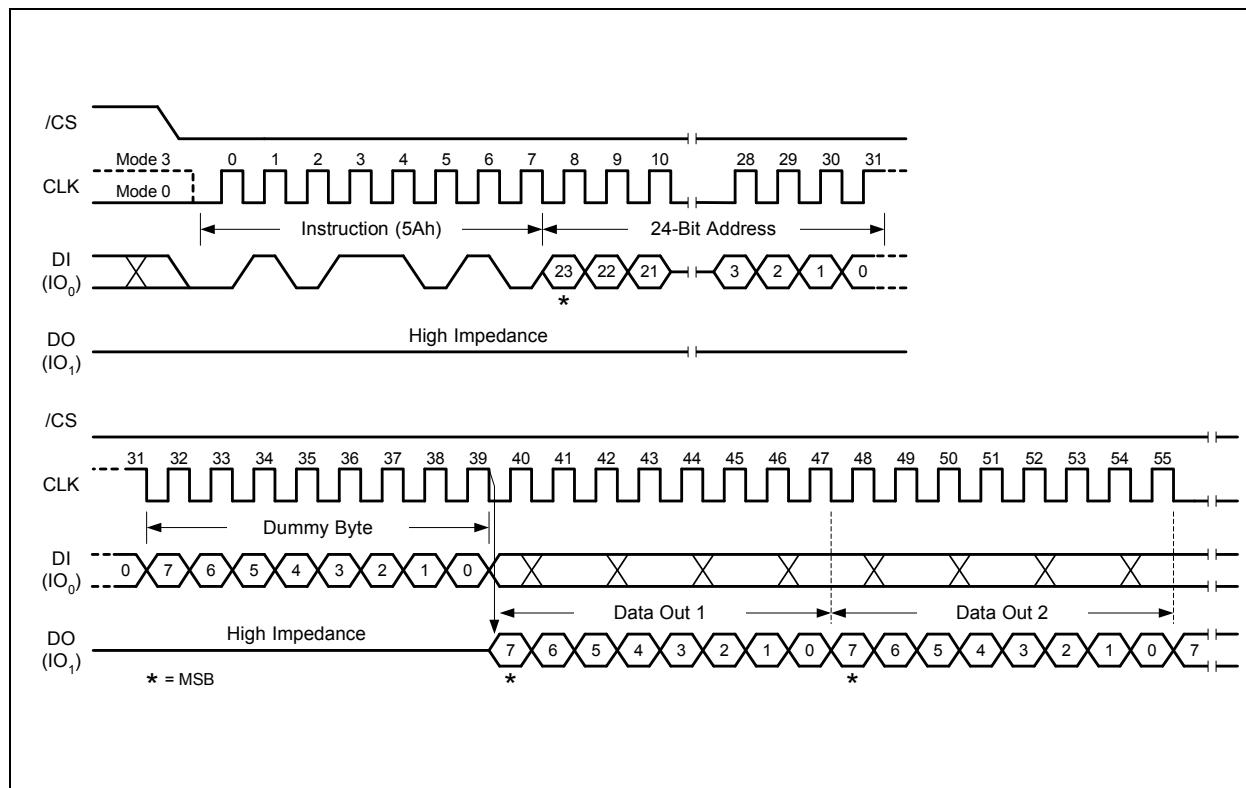

Figure 34. Read SDFP Register Instruction Sequence Diagram
The Read SDFP instruction is initiated by driving the /CS pin low and shifting the instruction code “5Ah” followed by a 24-bit address (A23-A0)(1) into the DI pin. Eight “dummy” clocks are also required before the SDFP register contents are shifted out on the falling edge of the 40th CLK with most significant bit (MSB) first as shown in Figure 34. For SDFP register values and descriptions, please refer to the Winbond Application Note for SDFP Definition Table.